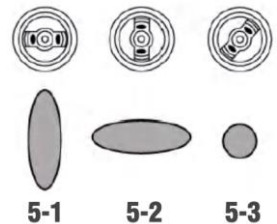

Fig. 5
To change the spray setting, simply loosen the union nut (G) and turn the air cap (F) to the desired position (Fig. 5).